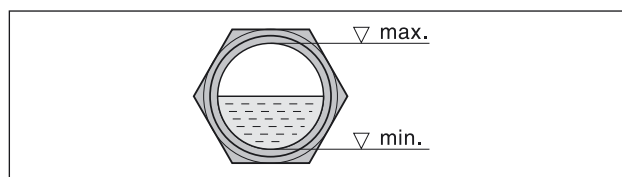

Fig. 5 Oil level
- b) After correcting the direction of rotation if necessary, start the motor again and stop it again after 2 minutes in order to top missing oil up to the upper edge of the sight glass (Fig. 5/I). This topping up at the filling point (Fig. 2/H) must be repeated until all the oil pipes have been filled completely.